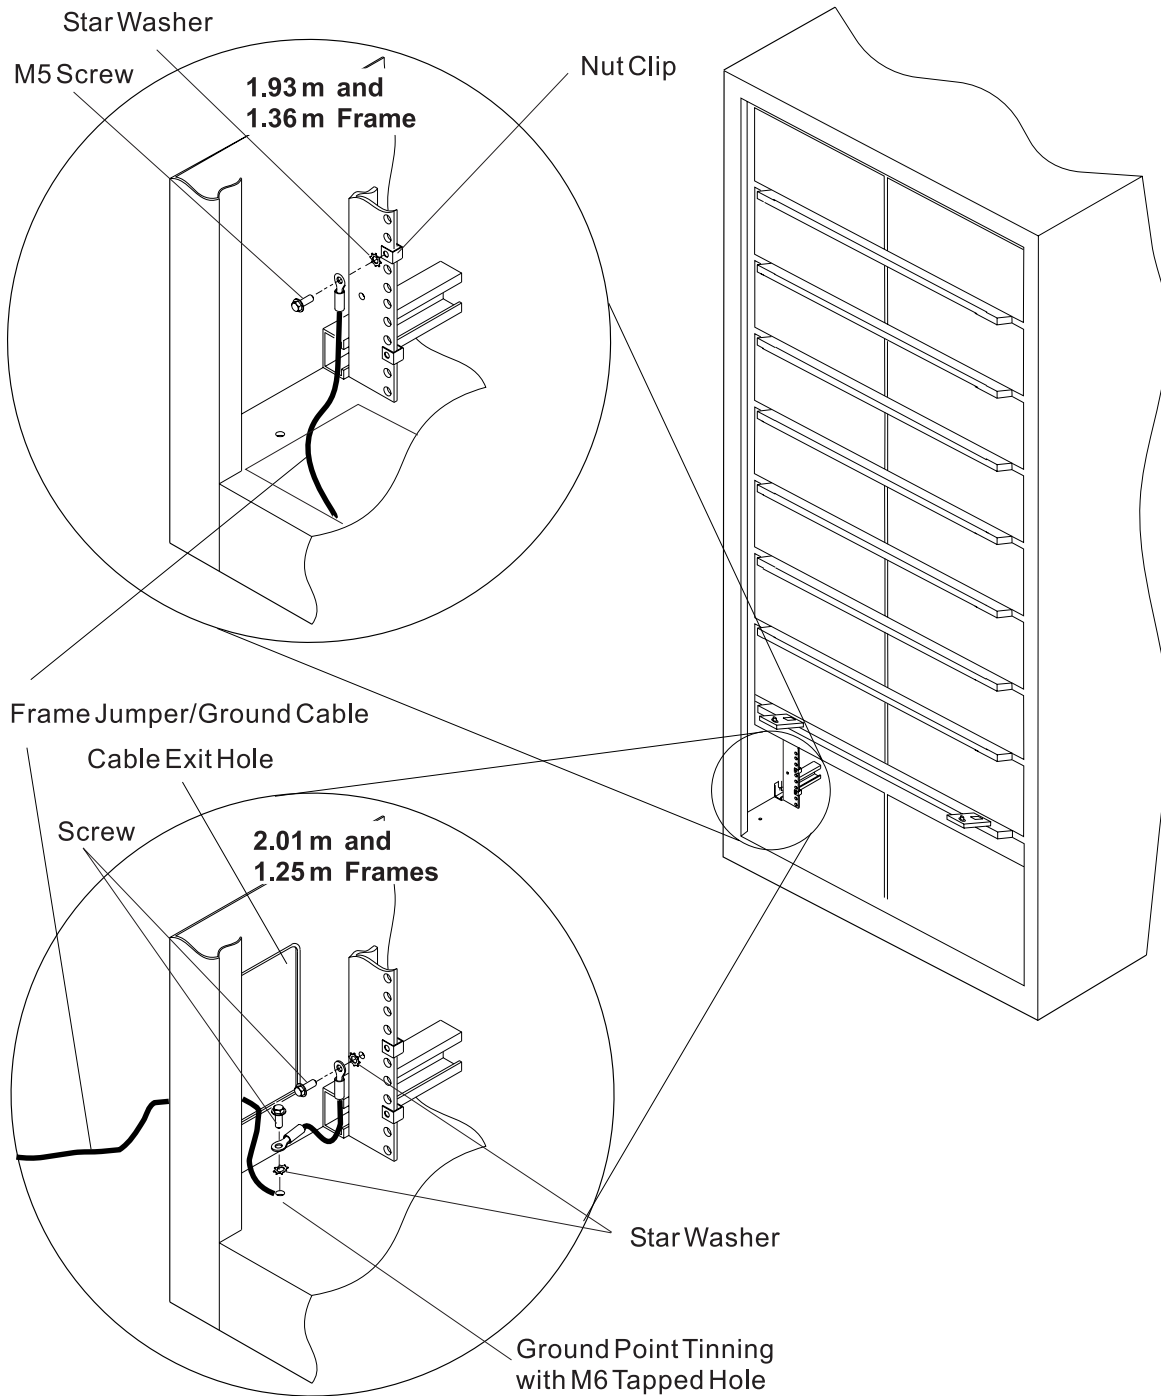

Figure 2-7. Installing frame jumper/ground cable between SP frames
- b. All other SP frames: Install the ground strap (P/N 46G5695) between each adjacent frame through the closest exit hole and fasten to the nutclip on the EIA rail, as shown in Figure 2-7 on page 2-11.